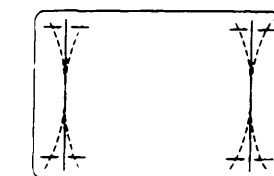

Fig 5.
- Adjust the straightness of both vertical lines (fig. 5) using buttons "4" or "6" on the remote control.